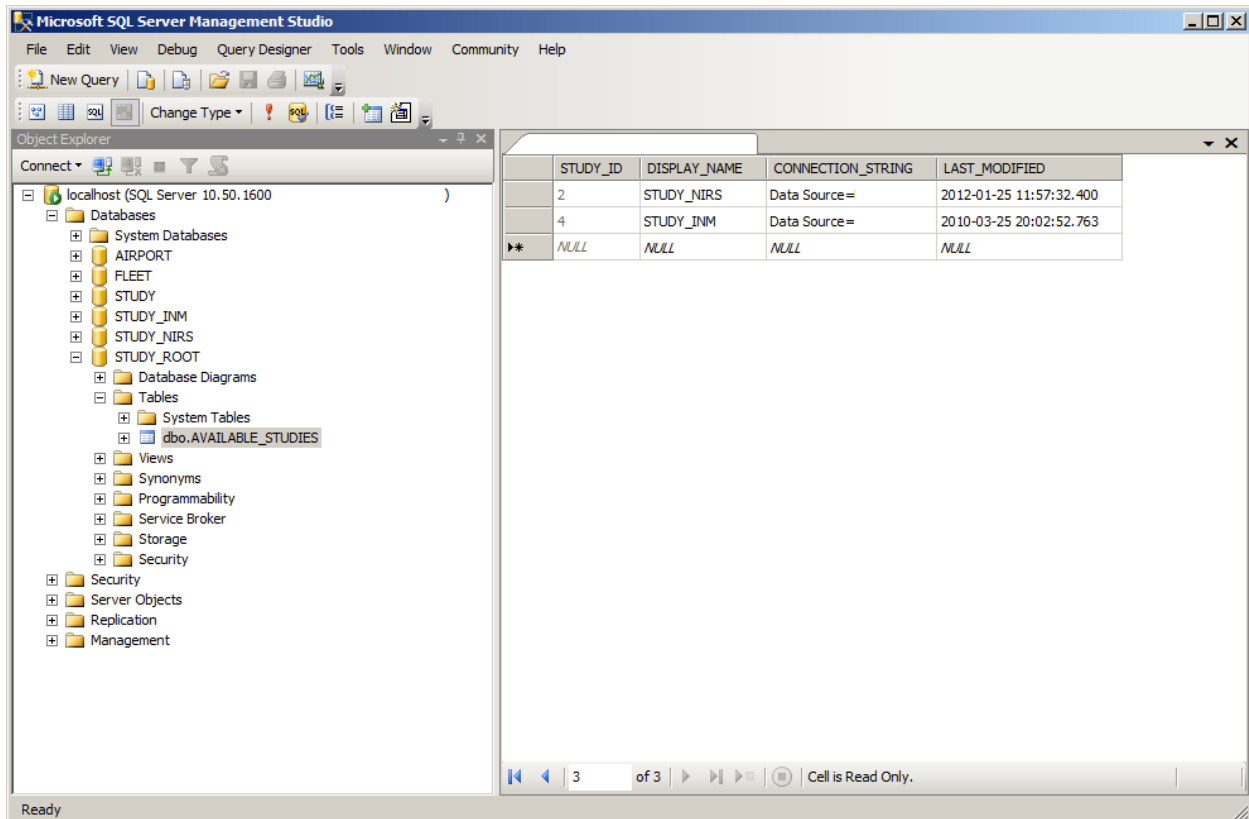

Figure D-4 Sample STUDY_ROOT Database
6. Right-click on *dbo.AVAILABLE_STUDIES* and select *Edit Top 200 Rows*. See Figure D-4 below, for a sample screen shot of the STUDY_ROOT database.